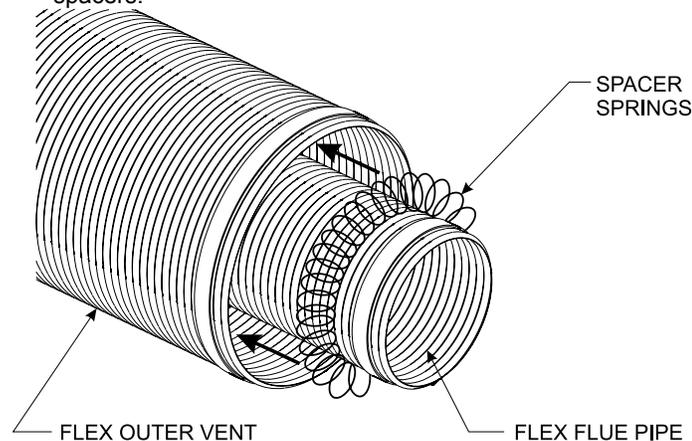

Figure 55
2. Check to see that the vent spacer springs are located around the flue vent at 8in intervals along its length. See **Figures 55 & 56**. If not, stretch the spacer springs to about 15in long and wrap them around the flue, then interlock the ends of each spring. Maintain equal distance between spring spacers.